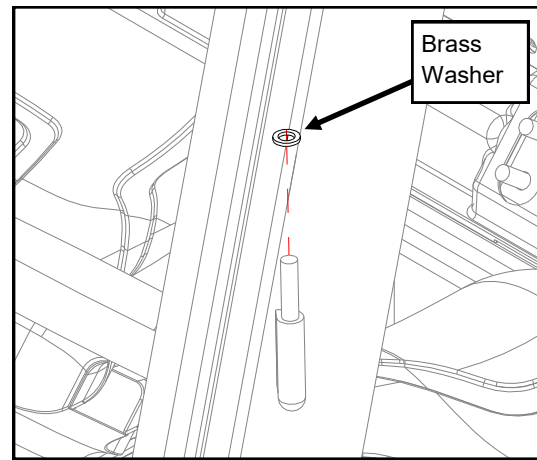

Fig. 15
15. Install (4) provided brass washers onto the weld-on hinge pins on the windshield frame and lower hinge mounts. (see fig. 15)